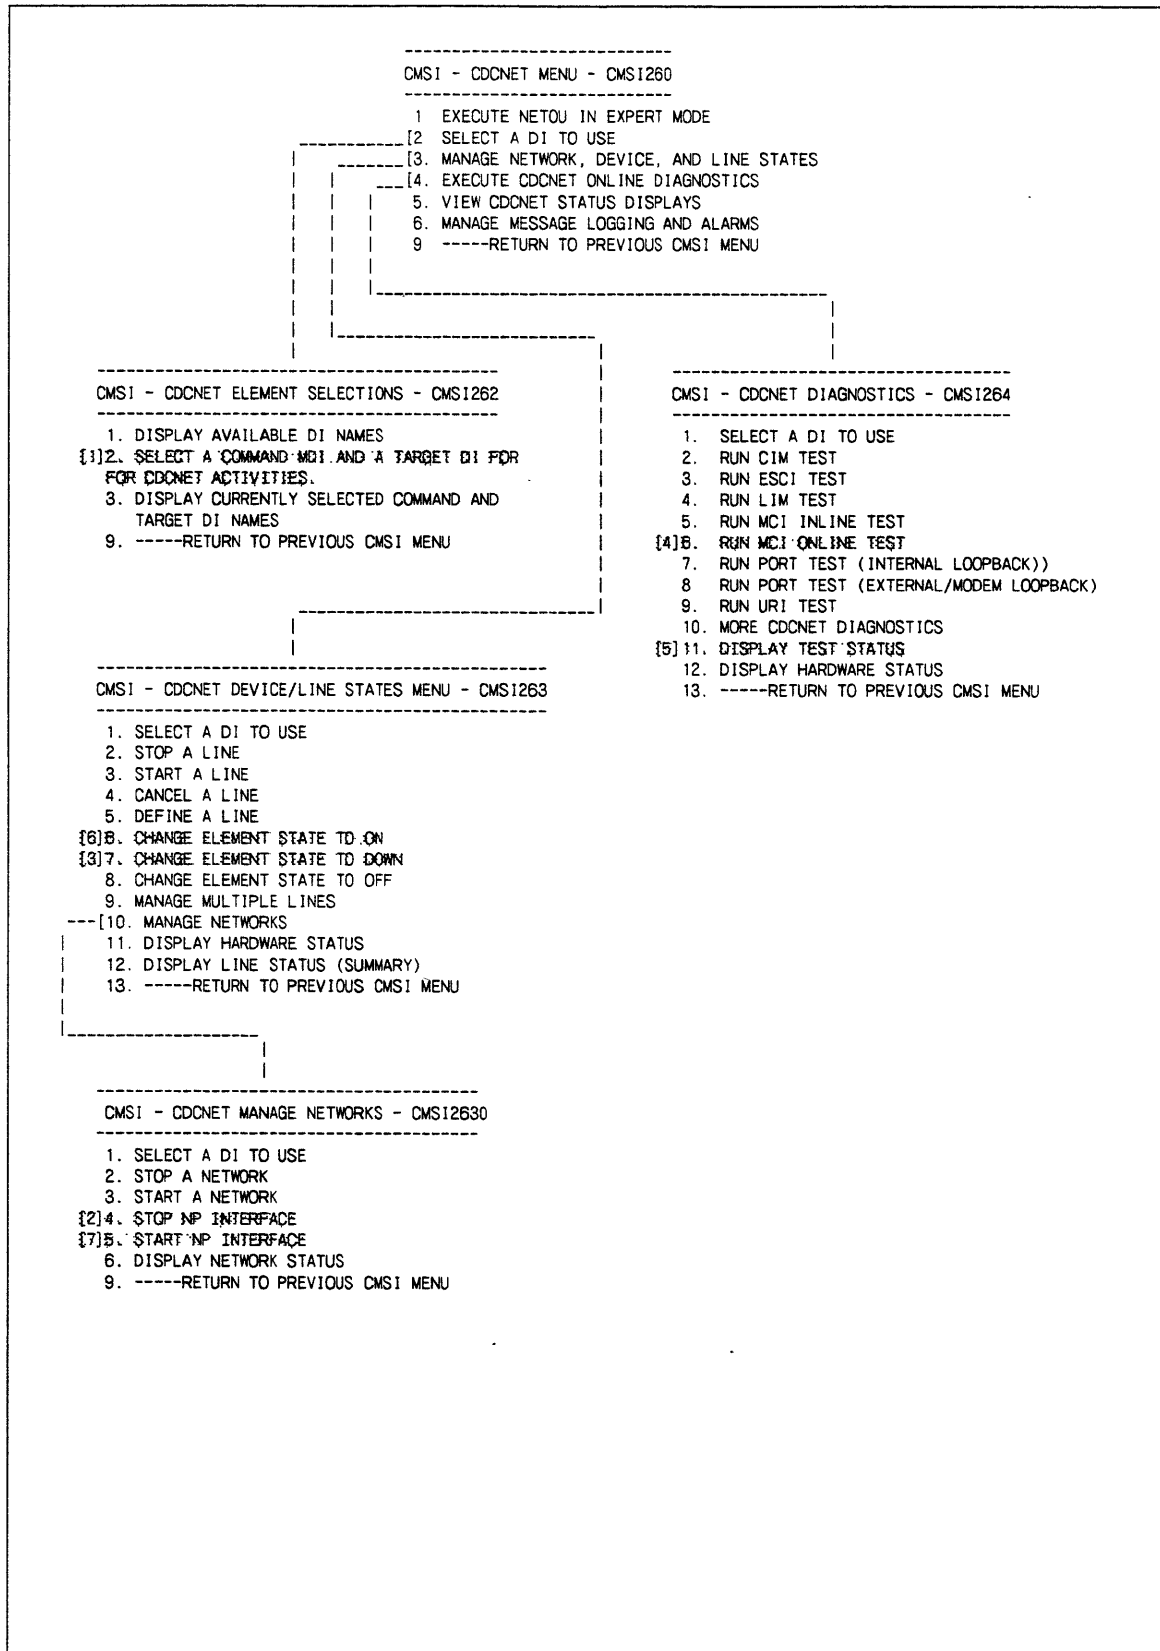

Figure 6-23. CMSI Menus for MCI Online Test
The following shows the sequence of actions necessary to run the MCI online test. Each menu choice is shown on figure 6-23 and described below. The purpose of this topic is to serve as a quick reference for the most frequently used menu selections. See chapter 4 for a complete description of CMSI. Familiarize yourself with the MCI test notes and procedure given earlier in this topic before running the test.
- Numbers in this column correspond to the bracketed numbers (for example, [1]) on figure 6-23.